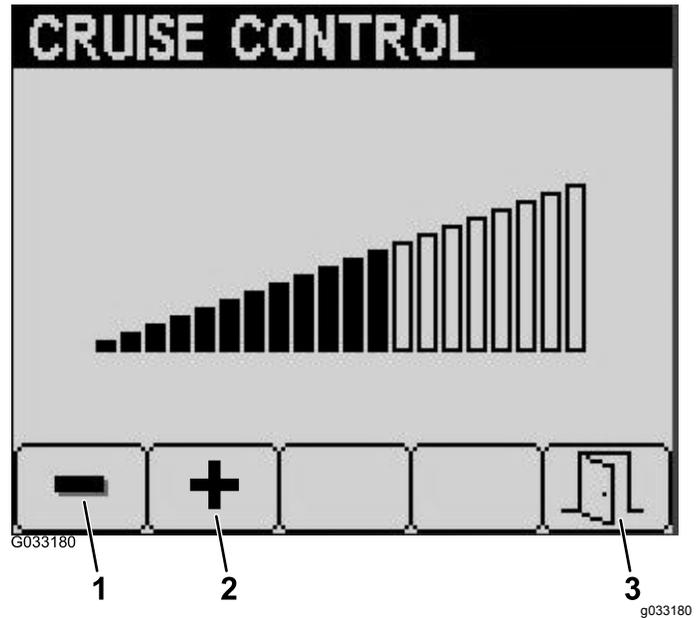

Figure 29
4. From the Cruise Control screen, press button 1 to decrease the cruise-control speed or button 2 to increase the cruise-control speed (Figure 29).
5. When you have set your desired cruise-control speed, press button 5 to exit (Figure 29).